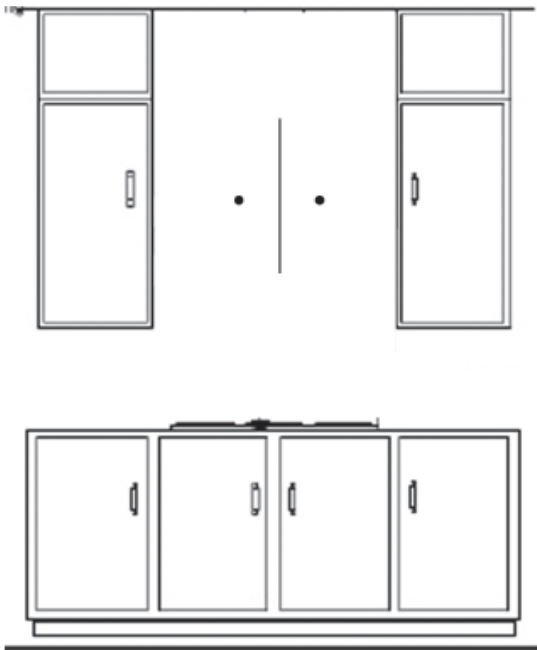

Figure 1
1. Based on the width of your hood, measure to find the center of the wall. Mark a line and measure to the left and right to find your two mounting points. Make sure the mounting points are level and mark them with a pen. It is recommended to install the hood into wood supports to hold the weight of the hood. *Figure 1*